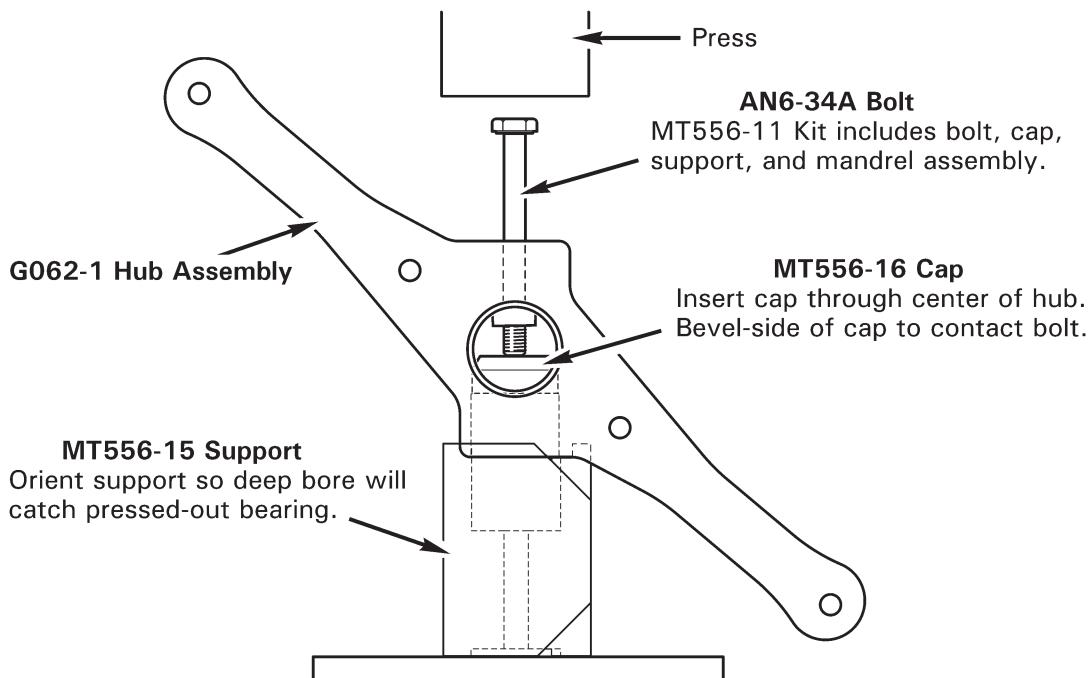

FIGURE 64-6 ELASTOMERIC BEARING REMOVAL
3. Refer to Figure 64-6. Press bearing(s) from hub using MT556-11 bearing removal | (and installation) tools.